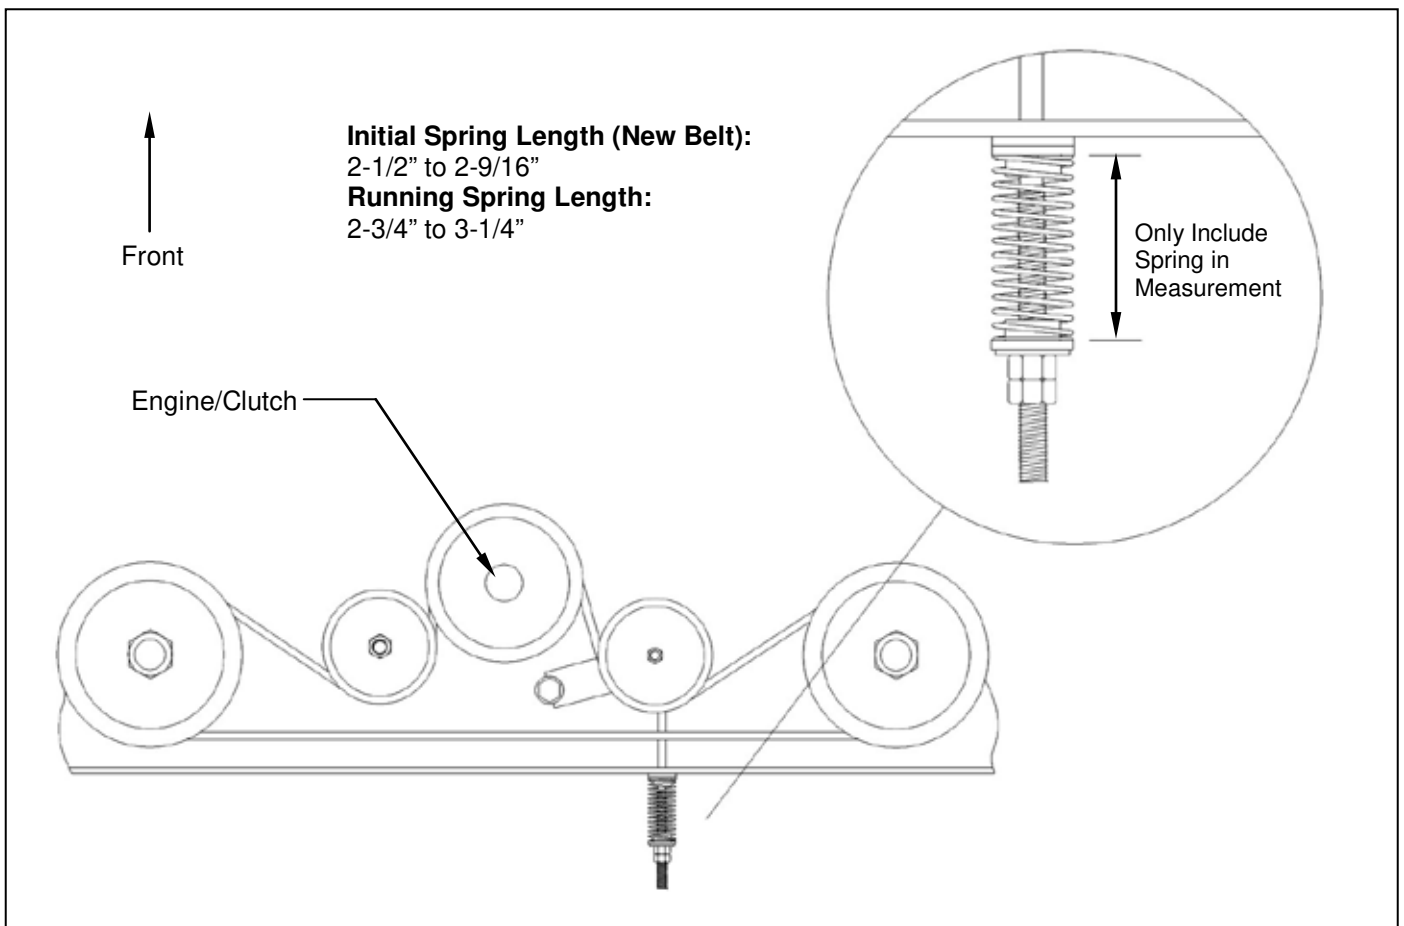

Figure 7: Belt Pattern and Spring Adjustment
**F. DRIVE BELT REMOVAL AND TENSION – Refer to Figure 7**
Install the new belt and then adjust the tension as follows: **See Figure 7.**